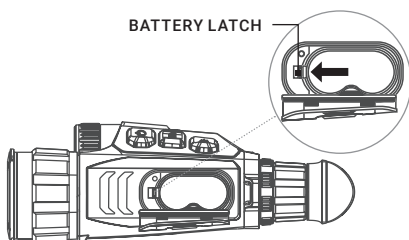

FIGURE 2-3. BATTERY REMOVING
2. Push the battery latch in the direction shown in Figure 2-3 to release the battery, and then remove the battery.